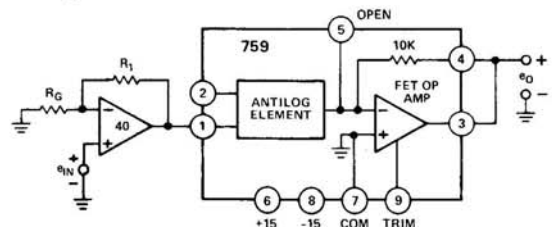

Figure 6. Method for Adjusting  $K < 2/3V$
**Scale Factor (K) Adjustment** – The scale factor may be adjusted for all values of  $K$  greater than 2/3V by the techniques described in the log section. If a value of  $K$ , less than 2/3V is desired for a given application, an external op amp would be required as shown in Figure 6. The ratio of the two resistors is approximately: